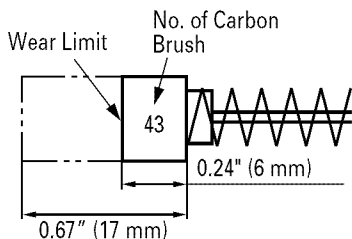

Fig. 28
4. Inspecting the carbon brushes (Fig. 28)
NOTE: Use HITACHI carbon brush No. 43 indicated in Fig. 28.